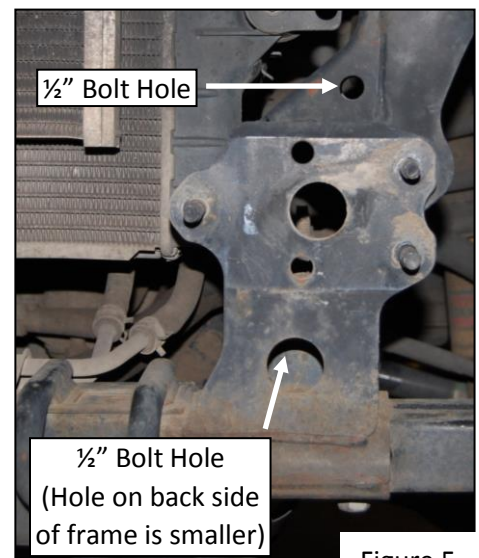

Figure 5
14. Before placing the bumper on the vehicle, check the frame holes to verify clearance for the ½" x 5" winch plate reinforcement hex bolts. There are 2 locations per side, one above, and one below the mounting studs as indicated in **Figure 5**. Using one of your ½" x 5" Hex Bolts, pass the bolt through the entire frame and out the back side at all 4 locations. If the bolt does not pass through, you will have to enlarge the holes slightly using a ½" drill bit. If you have to enlarge any holes, we suggest you paint the exposed raw metal edge of the hole to prevent rust development.